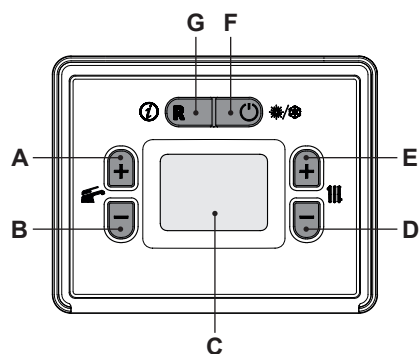
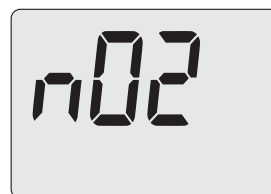

Figure 4.1
Figure 4.2
- 1 To enter in the "INFO mode" press the key "G" (Figure 4.1) and hold in for 5 second until the LCD display indicates the code **n02** Figure 4.2.
- 2 Scroll the various fault code using keys "A" (previous INFO) or "B" (next INFO) (Figure 4.1) until the LCD display indicates the code:
- press the "F" key for 5 seconds (Figure 4.1) (return to previous level).